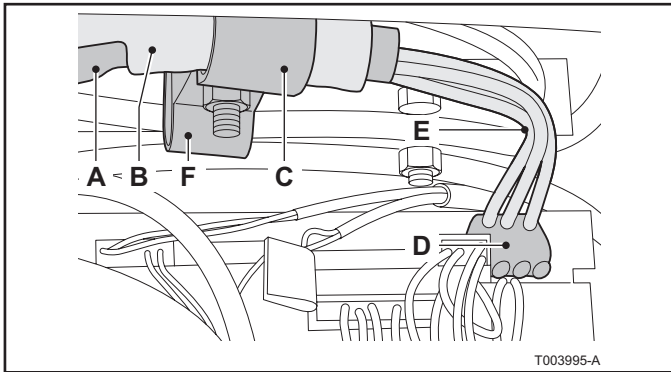
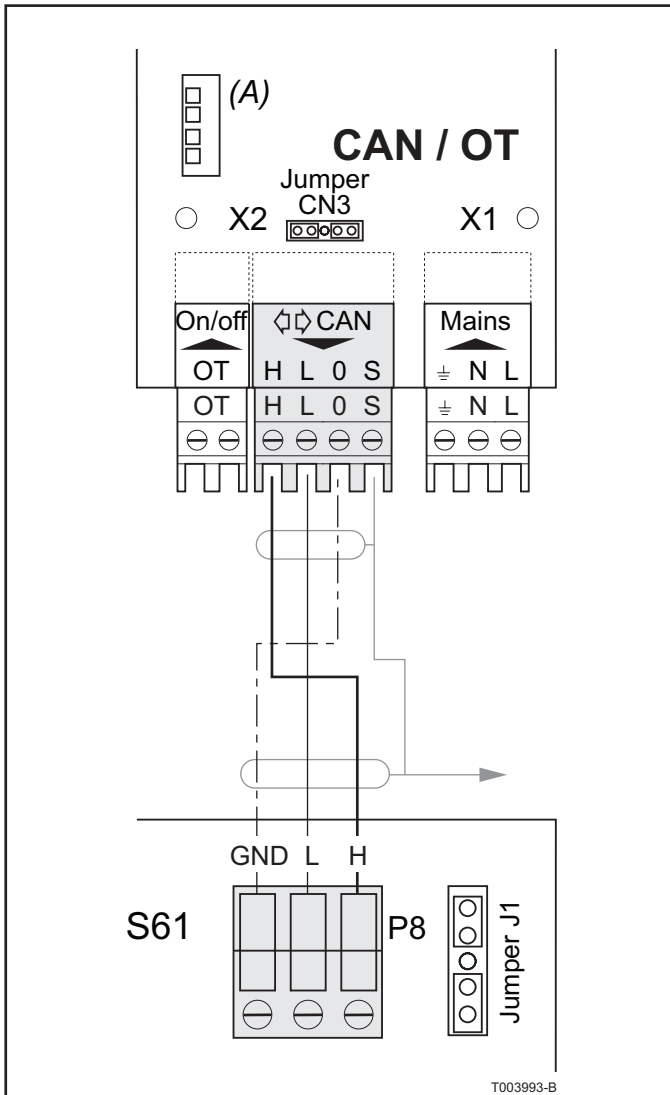
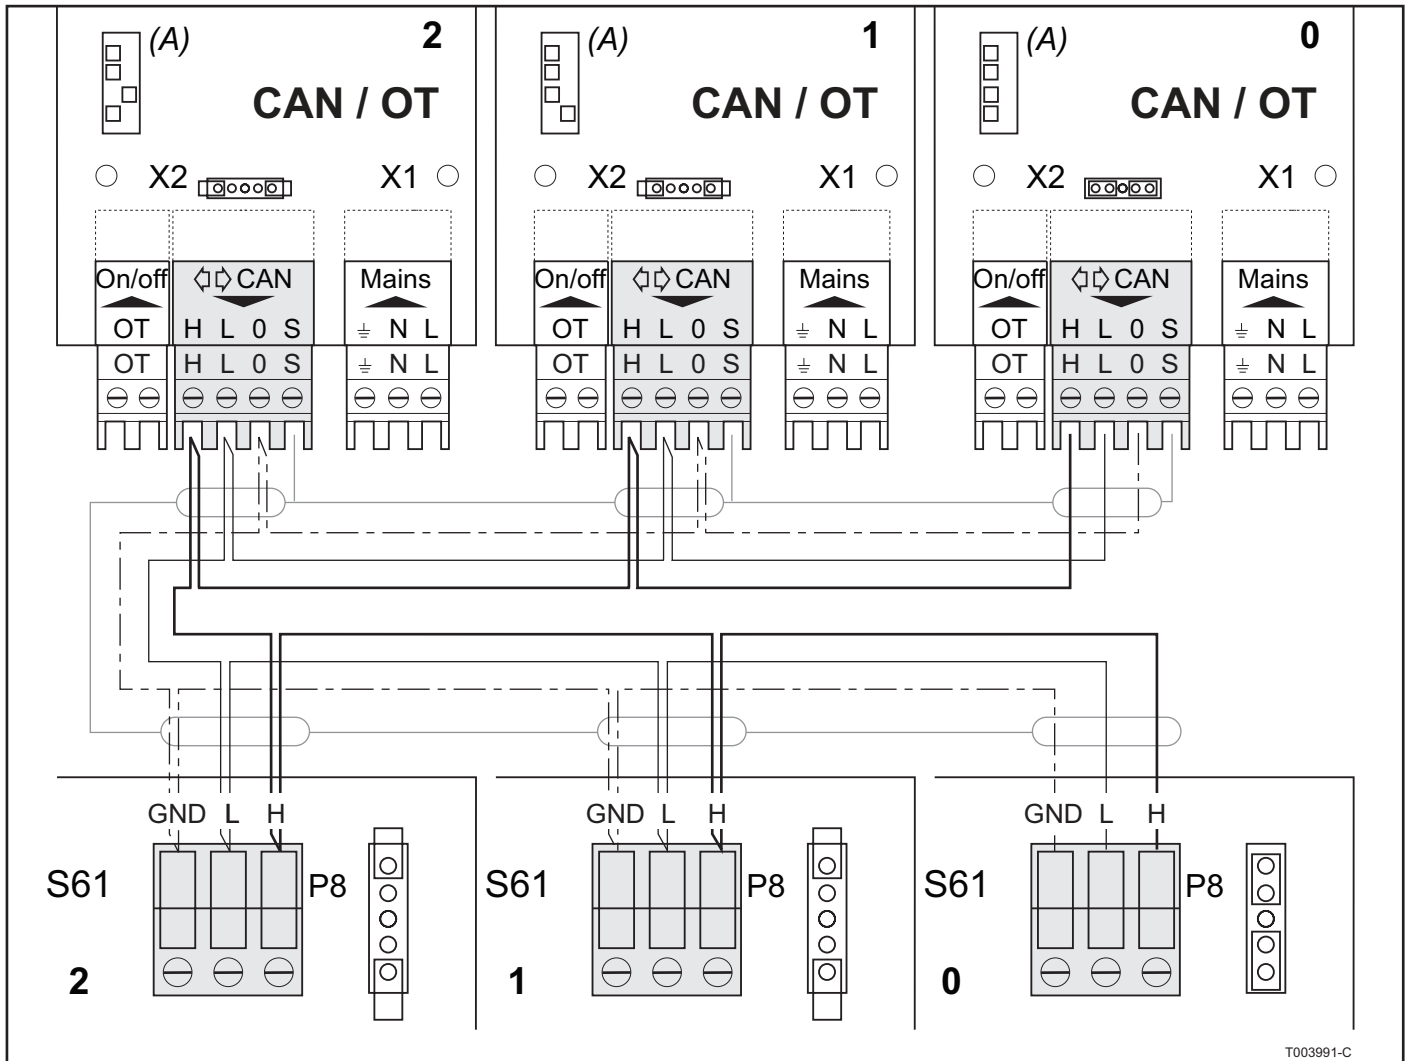

Fig. 06 CAN-bus cable connection (end node) on the printed circuit board for the Gas HP heat pump
Fig. 07 Connections on the CAN-OpenTherm interface and Gas HP printed circuit board (two nodes)
Fig. 08 Connections on the CAN-OpenTherm interface and Gas HP printed circuit board (several nodes)
- D Connector to connect the CAN-bus cables (see Fig. 07 and Fig. 08)
- E Wires (3) for the CAN-bus cable
3. If the cable used is too thin to be secured in the cable bracket (see C in Fig. 06), thicken the cable by wrapping insulation tape around the cable casing next to the stripped section (up to a diameter of approx. 12-13 mm).
4. Pull the shield back over the cable casing and use insulation tape to fasten the end of the shield that has been pulled back (see Fig. 06 (A)).
5. If the heat pump is an end node in the network, connect the three coloured wires to the orange connector as shown for D in Fig. 06. Connect the correct colours to the L, H and GND connections as indicated in Table 03 and Fig. 07.
6. If the heat pump is an intermediate node, repeat steps 2 to 5 for a different piece of cable so that two cables are available with the cable casing removed at one end. Always plait the two wires with the same colour together and then connect them to the orange connector as shown for D in Fig. 06 and in Fig. 08.
7. Use the cable bracket to secure the CAN-bus cable(s) to the top part of the inside of the electrical panel in such a way that the cable casing that is folded back is in close contact with the metal bracket (see Fig. 06 C and F). The bracket must keep the cables in place firmly when the cables are pulled.
- A. If the Gas HP heat pump is an end node in the network (three wires connected to the orange connector on the control unit), set the jumper as illustrated in *Fig. 07*.
- B. If the Gas HP heat pump is an intermediate node in the network (six wires connected to the orange connector on the control unit), set the jumper as illustrated for devices 1 and 2 in *Fig. 08*.
2. The jumpers on the CAN-OT interface must be set as indicated in *Fig. 07*. The CAN/OT interface is an end node.
7. Connect the cable to connector **X2** as indicated in *Fig. 07*. Pay attention to the marks on the connector where **GND** needs to be connected to **O**.